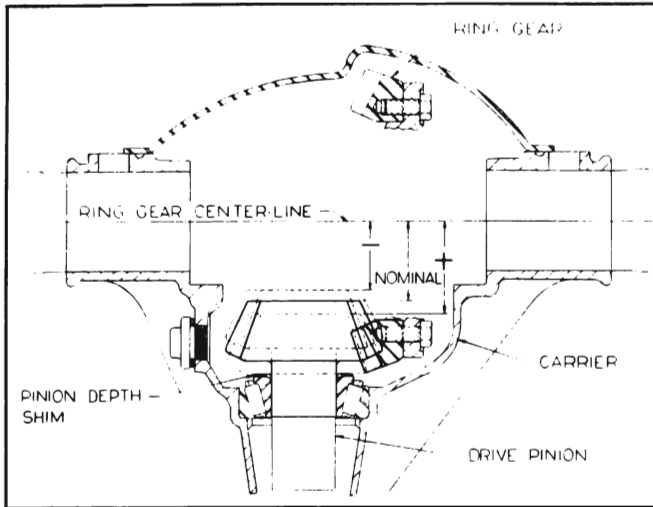

Figure 6-27—Nominal Pinion Depth Setting
5. Examine differential ring gear teeth for nicks or burrs or scoring. Any of these conditions will require replacement with a new gear set. Check numbers on new ring and pinion to make sure it is a matched set. See Figure 6-27.
the design or “nominal” setting due to allowable variation in machining the parts. See Figure 6-27.
This variation in thousandths of an inch over or under the “nominal” setting is etched on the small end of a pinion tooth. When a pinion is marked “+” (plus) it means that the rear face of the pinion when pressed in the carrier must be at the “nominal” distance from the centerline of the side bearing pedestals plus the amount indicated on the pinion tooth. When a pinion is marked “-” (minus) it means that it must be located at the “nominal” distance minus the amount indicated on the pinion tooth. See Figure 6-27.
7. Rotate the pinion until the blank tooth between the matching number and the pinion setting mark is slightly counterclockwise of top center (at about 11 o'clock). This tooth is called the gauging tooth (Figure 6-27) because it is used for locating and gauging during production and should therefore be used for gauging in service.